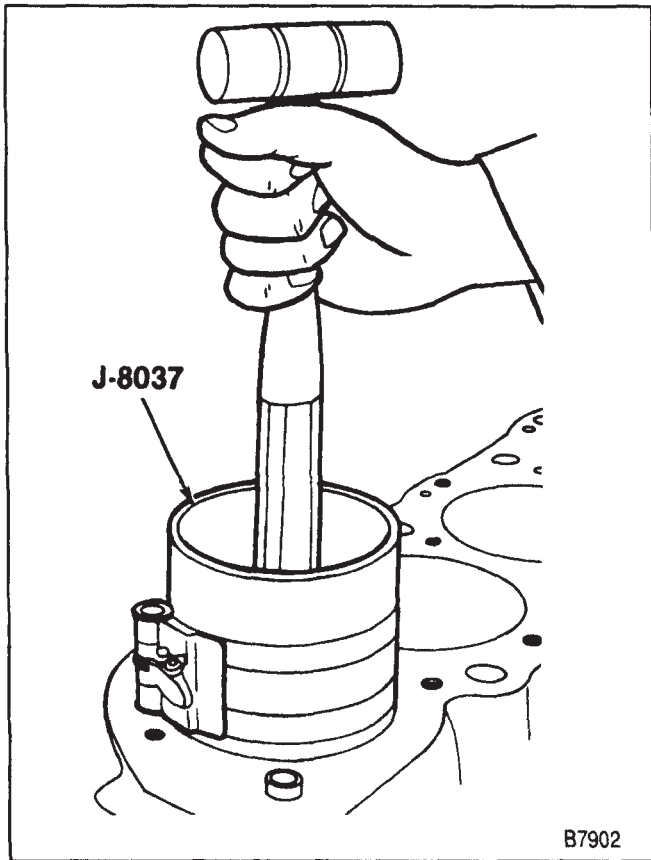

Figure 30—Installing the Piston
- E. Use light blows with a hammer handle to tap the piston into its bore (figure 30). At the same time, guide the connecting rod to the crankpin.